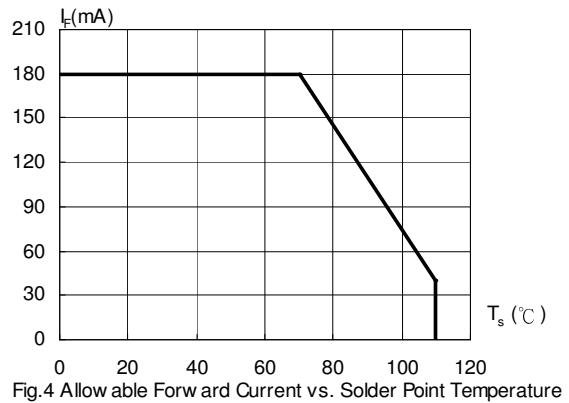

Fig.4 Allowable Forward Current vs. Solder Point Temperature
- Note: 1. Design of heat dissipation should be considered. For the allowable operating current at different operating temperature, please refer to fig 4. page 5.